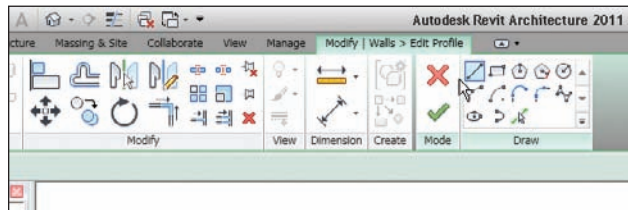

FIGURE 3.42 Adding additional lines to alter the wall's profile
You will now be presented with a magenta outline of the wall. This magenta outline can be modified to alter the wall's profile. If you look at your Ribbon, you will notice that Edit Profile has been added to the Modify | Walls tab. This allows you to focus on the modification at hand (see Figure 3.42).
4. On the Draw panel of the Modify | Walls > Edit Profile tab, select the Line button, as shown in Figure 3.42.